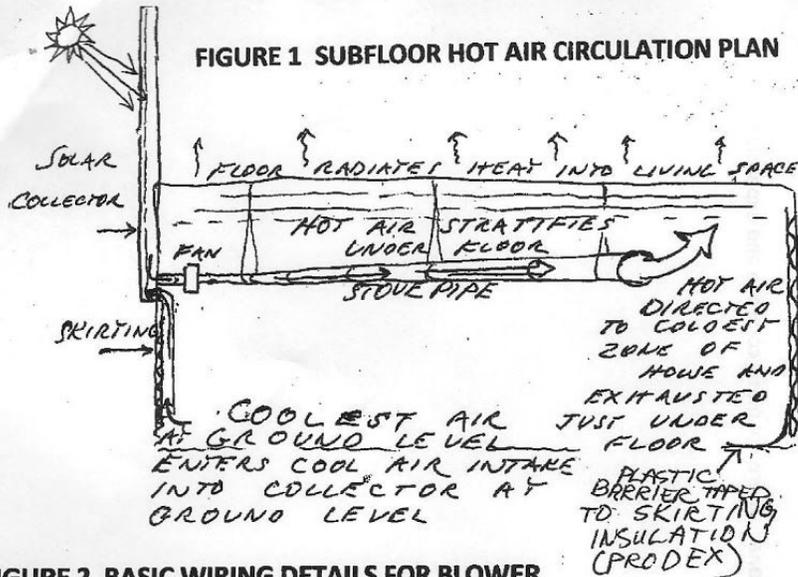

FIGURE 2 BASIC WIRING DETAILS FOR BLOWER
17. Wire up the blower. Use extension cord cut in two to run from collector to blower and from blower to outlet. One of the two main wires should be cut to wire in the thermostat. Use connectors to join wires inside rectangular electrical box, and one connector installed at blower. Test everything with power before closing up. [Figure 2]